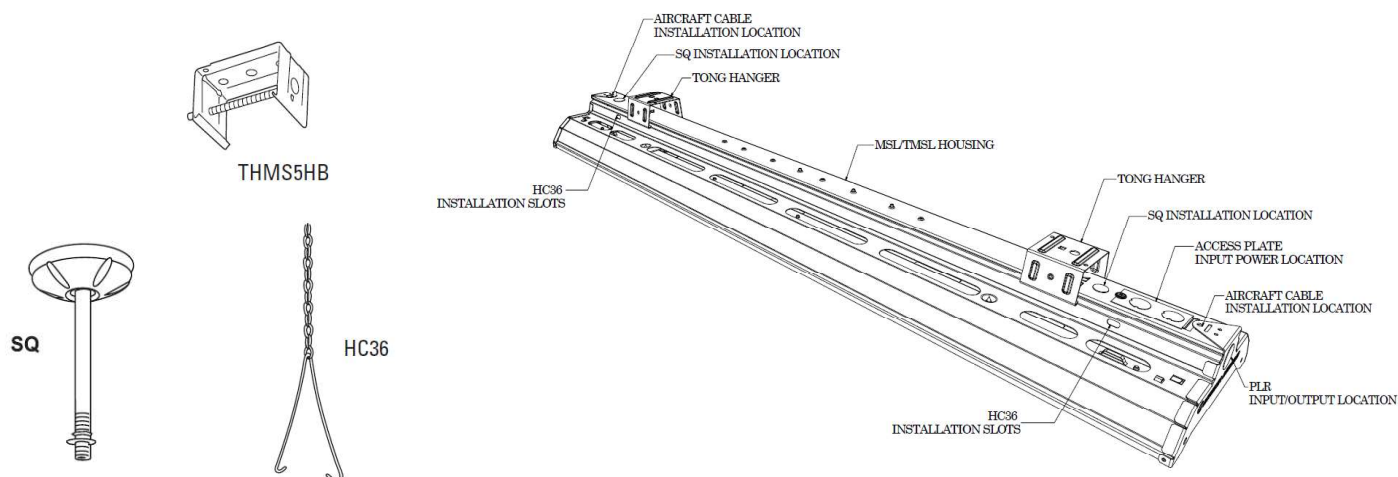

FIGURE 1
3. Decide on a hanging/mounting method that will work for your application, see hanging hardware devices in image below FIG 1. Make sure new LED fixture is securely mounted to the ceiling structure. We recommend using safety cables in areas that have high vibration, over head cranes and /or high air velocity. Also use cables where required by code.